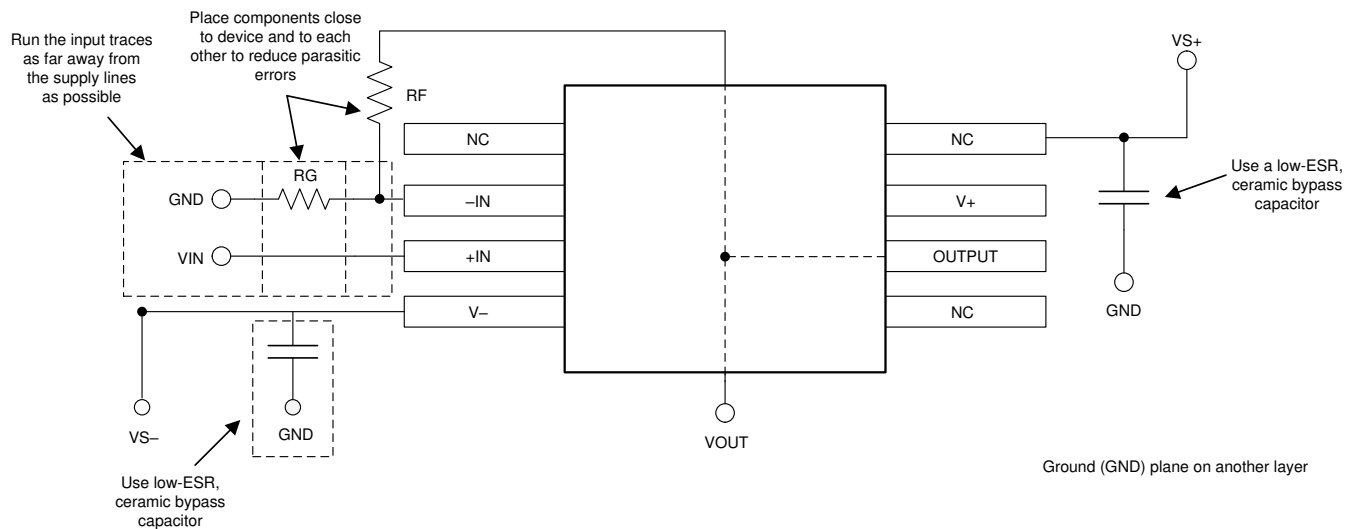

图 7-5. Operational Amplifier Board Layout for Noninverting Configuration
- Place the external components as close to the device as possible. As shown in 图 7-5, keeping RF and RG close to the inverting input minimizes parasitic capacitance.